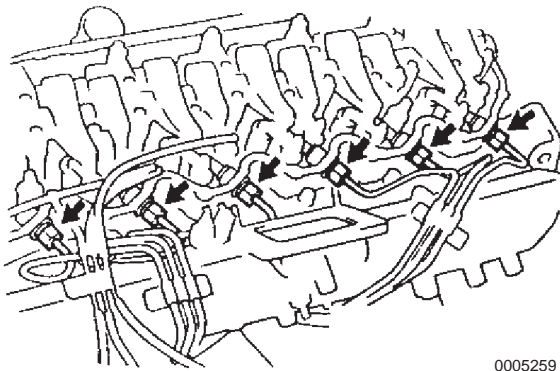

Figure 6-10
5. Remove the union nut of the fuel injection pipe from the fuel injection nozzle (**Figure 6-10**).